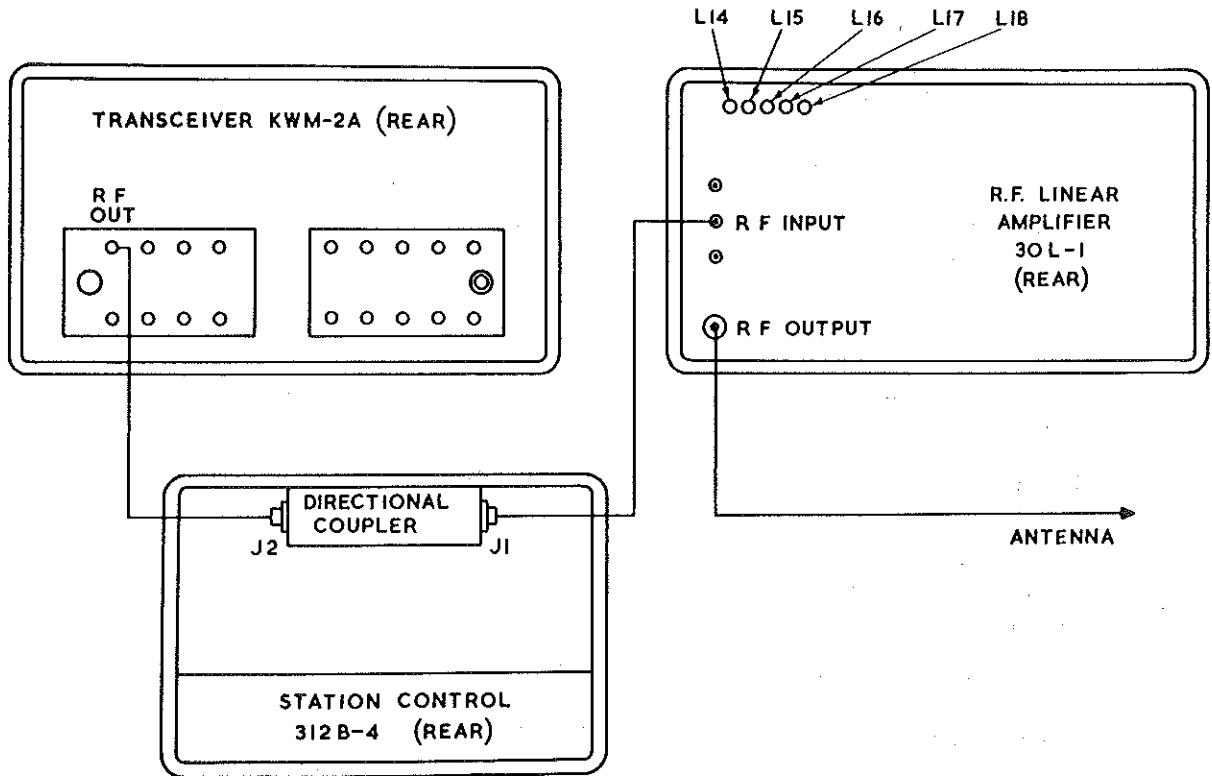
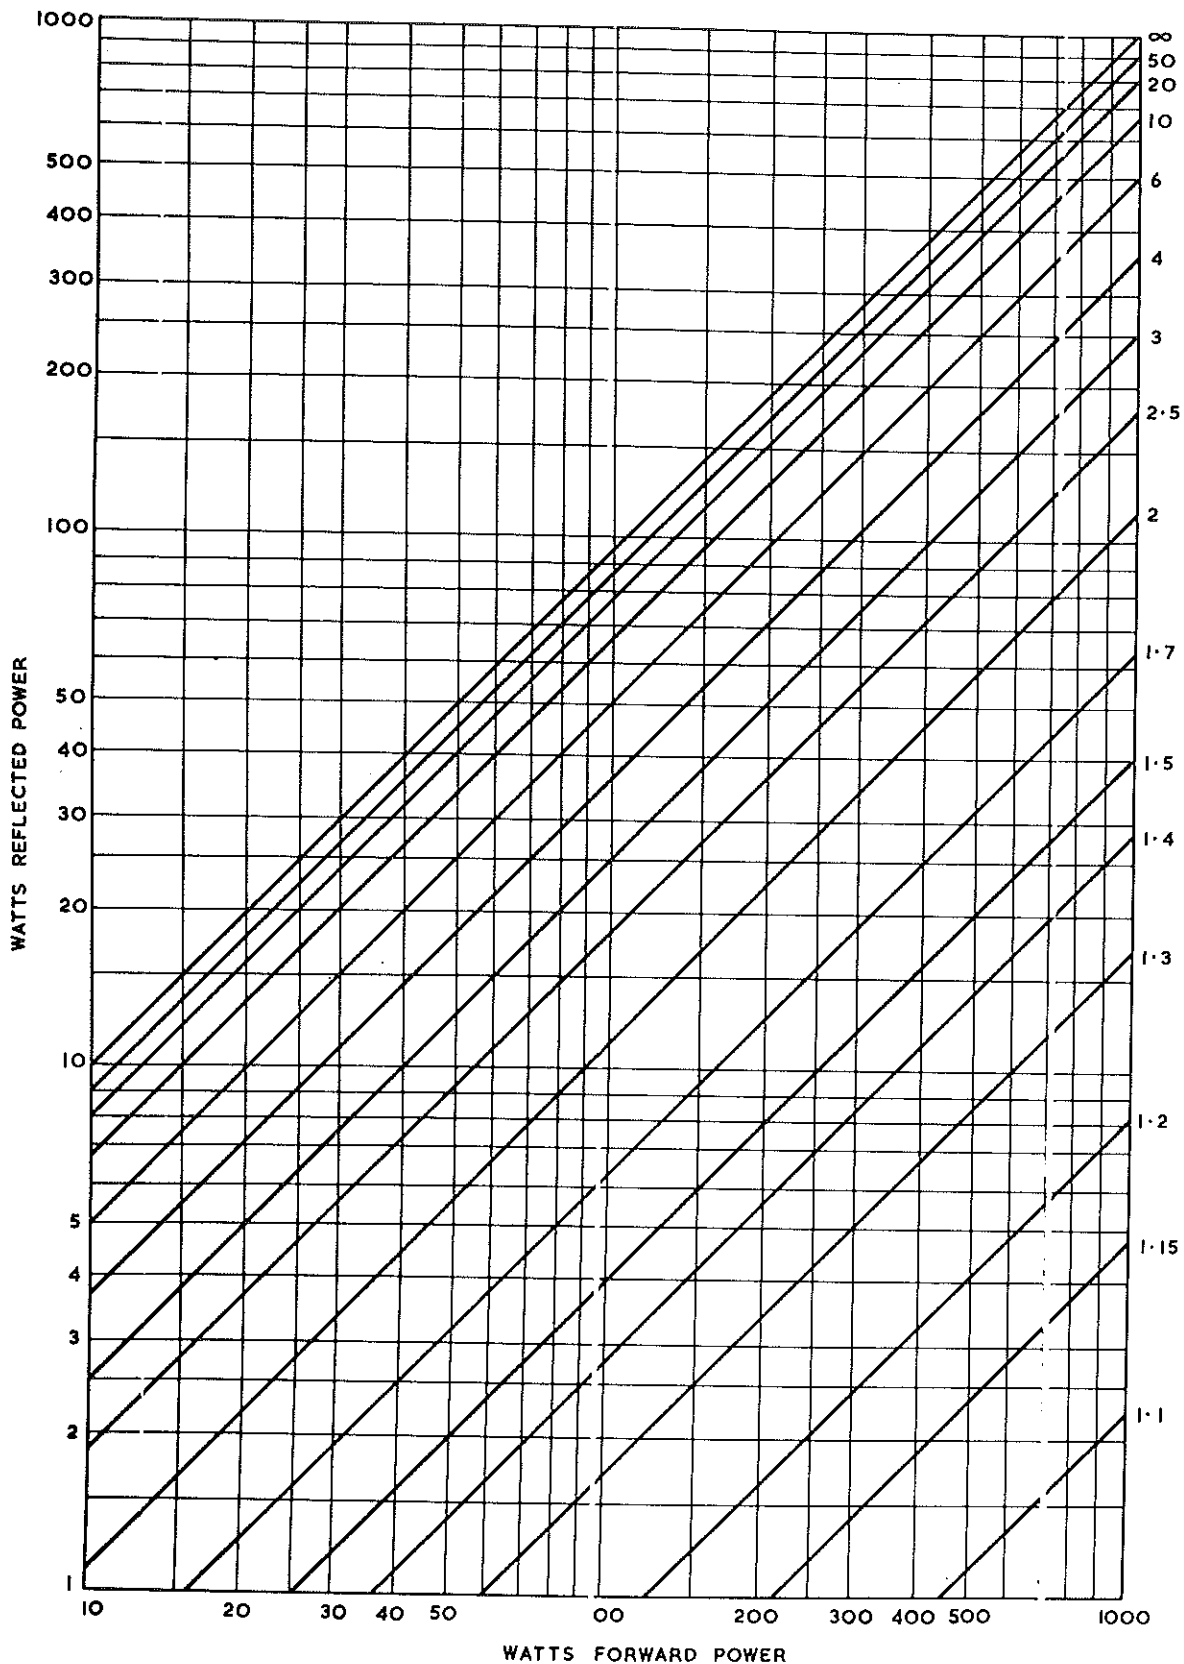

Fig. 7 Unit r.f. interconnections for 30L-1 input circuit adjustments
Fig. 8 V.S.W.R. graph
- (1) On the transceiver KWM-2A set the OFF-ON-NB-CAL switch to OFF.
- (2) Temporarily connect the directional coupler on the station control 312B-4 between the transceiver KWM-2A and the r.f. linear amplifier 30L-1 as shown in fig. 7. Connect the antenna lead to the R.F. OUTPUT connector on the 30L-1.
- (3) On the transceiver KWM-2A reset the OFF-ON-NB-CAL switch to ON or NB (as previously). Note the present setting of the MIC GAIN control and then turn this control to OFF. Set the EMISSION switch to TUNE.
- (4) On the r.f. linear amplifier 30L-1, set the BAND switch to the same band as that of the transceiver KWM-2A (details of band identification are provided in Table 5).
- (5) Set the LOADING control to '1'.
- (6) Set the TUNING control to the white portion of the scale approximately indicating the desired band.
- (7) Set the ON-OFF switch to ON.
- (8) On the station control 312B-4 set the WATTMETER switch to 200 FORWARD.
- (9) On the transceiver KWM-2A turn the MIC GAIN control approximately three-quarter fully clockwise and immediately adjust the TUNING control on the r.f. linear amplifier 30L-1 for minimum meter reading on this unit (the meter switch should still be in the TUNE position - initial setting condition, Table 1).
(10) Alternately adjust the LOADING and TUNING controls on the 30L-1 for zero meter reading. The final adjustment must be with the TUNING control.
(11) On the transceiver KWM-2A set the EMISSION switch to LOCK and adjust the MIC GAIN control to provide 30 W of forward drive power to the r.f. linear amplifier 30L-1 as indicated on the station control 312B-4 wattmeter.
(12) Set the WATTMETER switch to 200 REFLECTED and ensure that the reflected power does not exceed approximately 3 W. This corresponds to a v.s.w.r. of better than 2 : 1 (fig. 8). If the reflected power is greater than 3 W, adjust the appropriate input circuit inductance (Table 5) on the r.f. linear amplifier 30L-1 for minimum reflected power. During this operation, readjust the MIC GAIN control on the transceiver KWM-2A as necessary to maintain 30 W of forward drive power. The location of the access holes in the rear of the 30L-1 for adjusting the five inductances is shown in fig. 7.
(13) If it has been necessary to adjust the input circuit inductance on the r.f. linear amplifier 30L-1, set the transceiver KWM-2A EMISSION switch to TUNE and repeat the operations detailed above in (9) and (10).
(14) Reset the EMISSION switch on the KWM-2A to the desired operating position - LSB, USB or CW.
(15) Return the MIC GAIN control to its original setting as determined in para. 18 (4) (s.s.b. operation) or para. 20 (6) (c.w.) operation).
(16) Switch off the r.f. linear amplifier 30L-1 and the transceiver KWM-2A and restore the interconnections between these units and the station control 312B-4 to their original state.
(17) On the station control 312B-4 set the WATTMETER switch to 2000 FORWARD.
(18) Switch on the transceiver KWM-2A and the r.f. linear amplifier 30L-1.
(3) Set the WATTMETER switch to 200 REFLECTED (2000 REFLECTED when 30L-1 is being used) and again operate the transceiver KWM-2A briefly in the c.w. transmit mode. Note the wattmeter reading. On the 2000 REFLECTED position, if the reading is less than 200 watts, set the WATTMETER switch to 200 REFLECTED in order to increase the sensitivity.
(4) If the reflected power indication is greater than the forward power indication, it is probable that the directional coupler has been incorrectly connected. Ensure that J1 is connected to the antenna, and J2 to the transmitter.
(5) Using the chart provided in fig. 8, calculate the v.s.w.r. from the forward and reflected power readings.